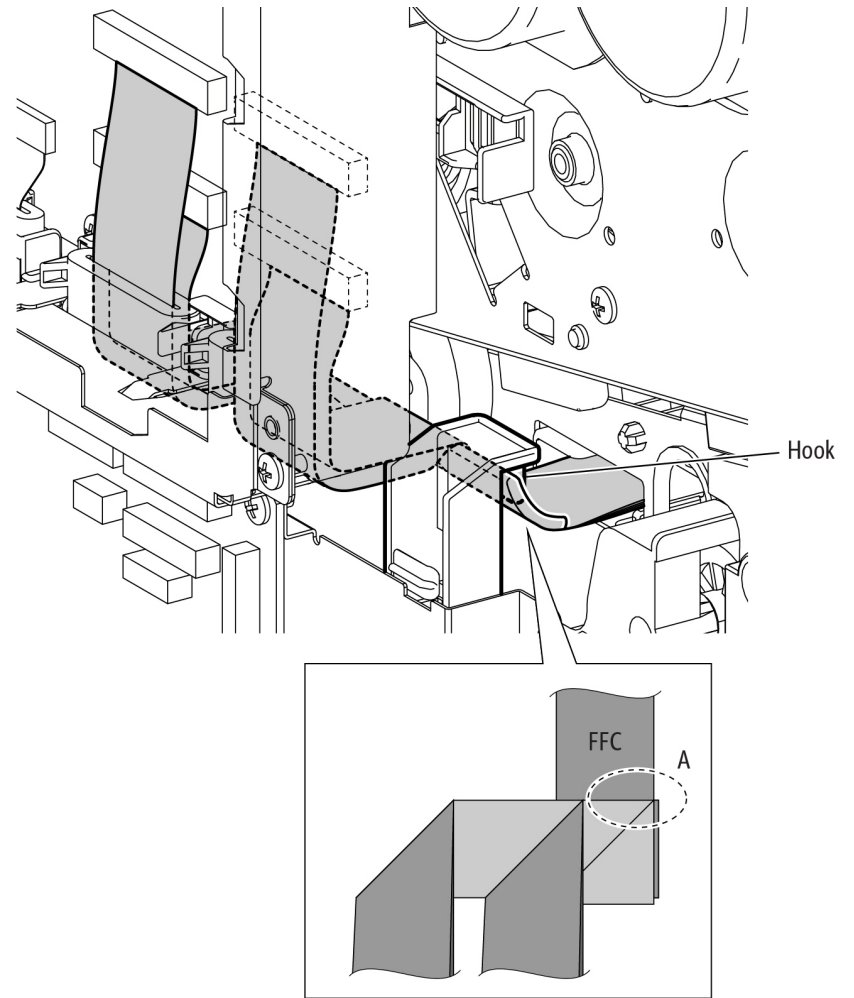

Figure 8 Position FFC to avoid damage
- Check the bend of the cable at location (A) in the inset and at the hook, Figure 8.